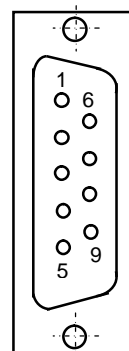

Figure 5.5
5.4.2.5 The encoder channels are wired to Connectors «1»-«3» on the connector card of the CNC unit. The connector types are shown in Table 3.2. Connector pins arrangement is shown in Figure 5.5. This channel signals are presented in Table 5.6.